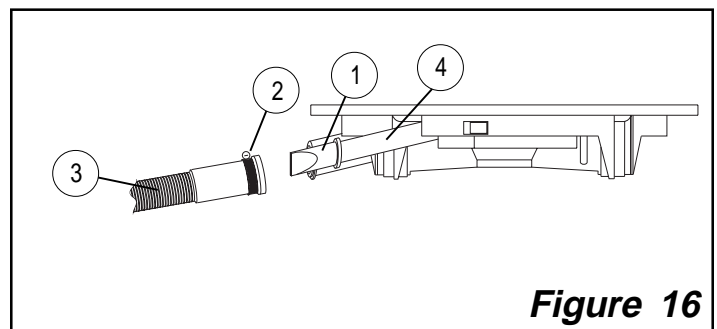

Figure 16
2. Push the Drain Hose (3) and Clamp (2) assembly over the Drain Port (4) and Check Valve (1). Fasten the Clamp (2) securely (see *Figure 16*).